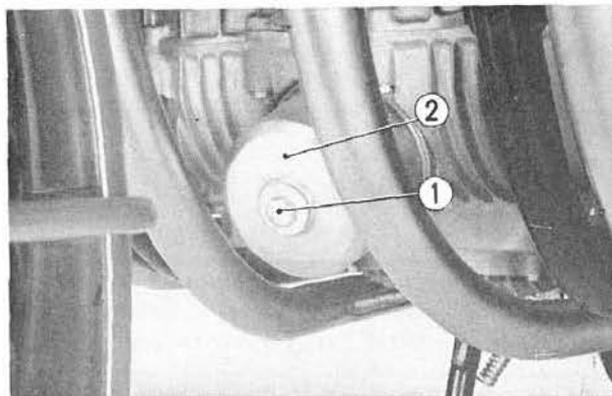

Fig. 19-4 ① Oil filter retaining bolt ② Oil filter cover
(1) Remove oil filter cover by unscrewing the oil filter retaining bolt. (Fig. 19-4)